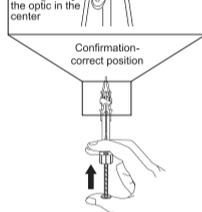

Fig.10: Step 5 - Push plunger and verify haptic positioning
- Gently advance the plunger forward in one smooth, continuous motion until haptic tucking state reaches the specific position as illustrated in figure (Fig.10). This plunger advancement should require about 5 seconds, **DO NOT pull the plunger back AT ANY TIME.**
Pay special attention that the trailing haptic is tucked correctly as the rod advances to the back edge of the optic. As the lens advances further confirm that the leading and trailing haptic are tucked correctly, and that the rod tip pushes the edge of the optic in the center (Fig. 10). If no issues are observed, go immediately to Step 6. If the *insert shield* is not used, go to Step 6A. If the *insert shield* is used, go to Step 6B.